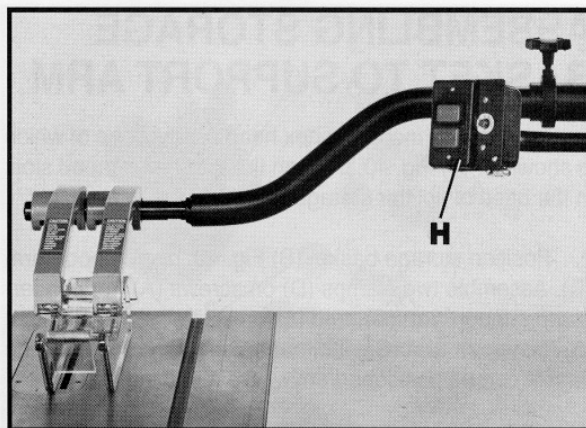

Fig. 44
5. Fig. 44, illustrates a Delta 10" Unisaw switch (H) mounted to the switch arm.